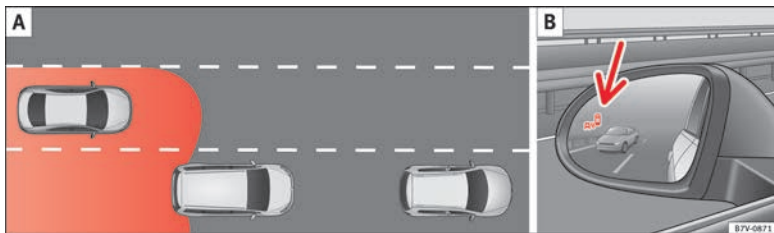

Fig. 223 Schematic diagram: **A** Passing situation with traffic behind the vehicle. **B** Indication from the blind spot detector in the left-hand external mirror.
In the following situations, an indication will be displayed in the external mirror »» **Fig. 223 B** (arrow) or »» **Fig. 224 B** (arrow):
- When being passed by another vehicle »» **Fig. 223 A**.